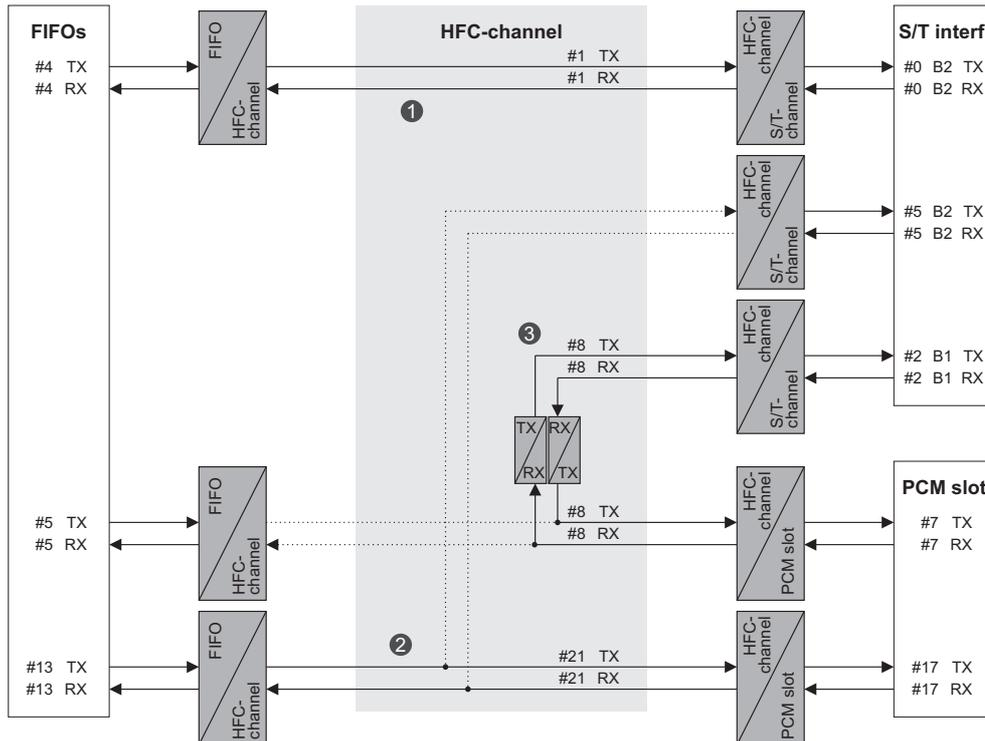

Figure 3.8: CSM example
The example for a *Channel Select Mode* configuration in Figure 3.8 shows three bidirectional connections (❶ FIFO-to-S/T, ❷ FIFO-to-PCM and ❸ PCM-to-S/T). The black lines illustrate data paths, whereas the dotted lines symbolize blocked resources. These are not used for data transmission, but they are necessary to enable the settings.